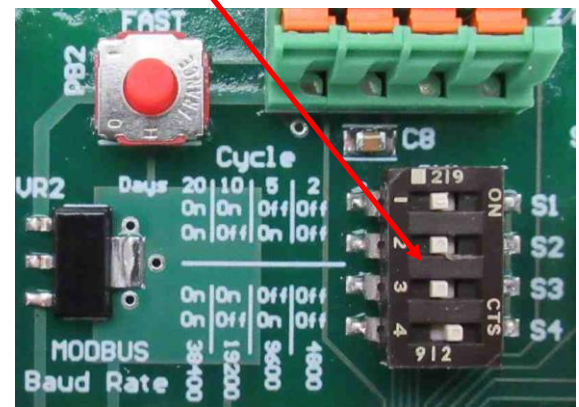

Figure 6 – Modbus data rate (baud)
3. See Table 3 and Figure 6 below for combinations of S3 and S4 positions for desired Modbus data rate (switch pictured set to factory default of 9600 baud: S3-OFF, S4-ON).